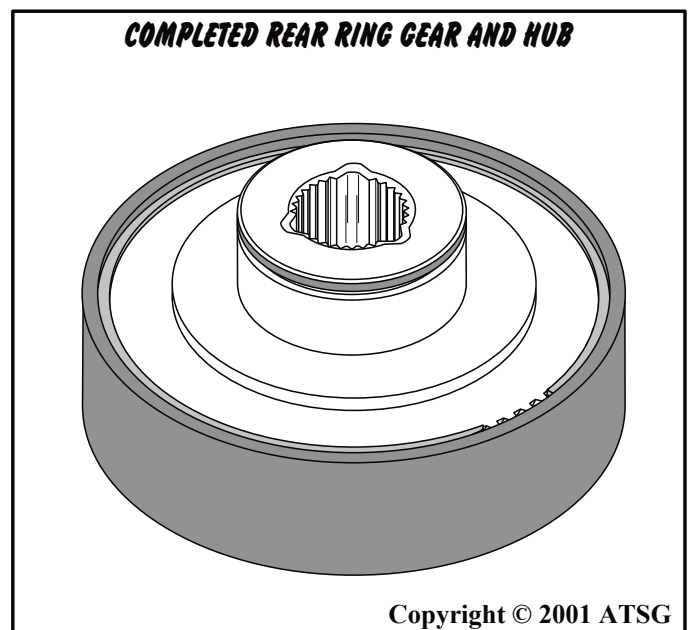

Figure 99
5. Set completed rear ring gear and hub assembly, as shown in Figure 99, aside for final assembly process.